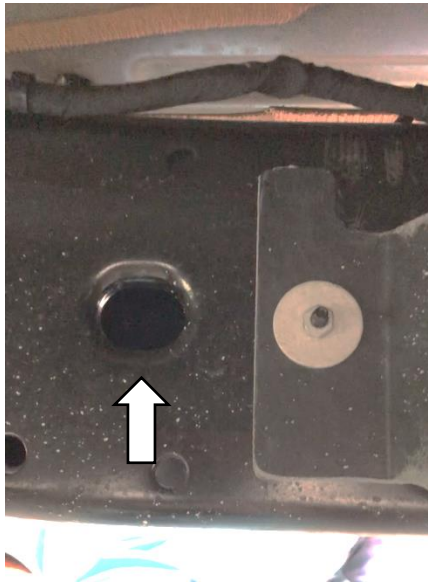

Figure 1
Step 1: Install wire harnesses. Starting on the passenger side. From under the Jeep, locate the hole in (fig 1) this hole is on the inside of the frame facing the drivetrain. This is where the wiring will exit the frame. Insert your wire snake/tape into the hole in the frame just above the rear lower control arm (fig 2). Insert the snake/tape until it can be pulled through hole in (fig 1). Attach harness where "B Rear" label is attached as pictured in (fig 3). Gently pull the harness through the frame and out of the hole. Repeat this process for the passenger side.
both sides (Fig 1). Once the wiring is all routed properly, connect the “C” harness to a switched, relay protected power source.